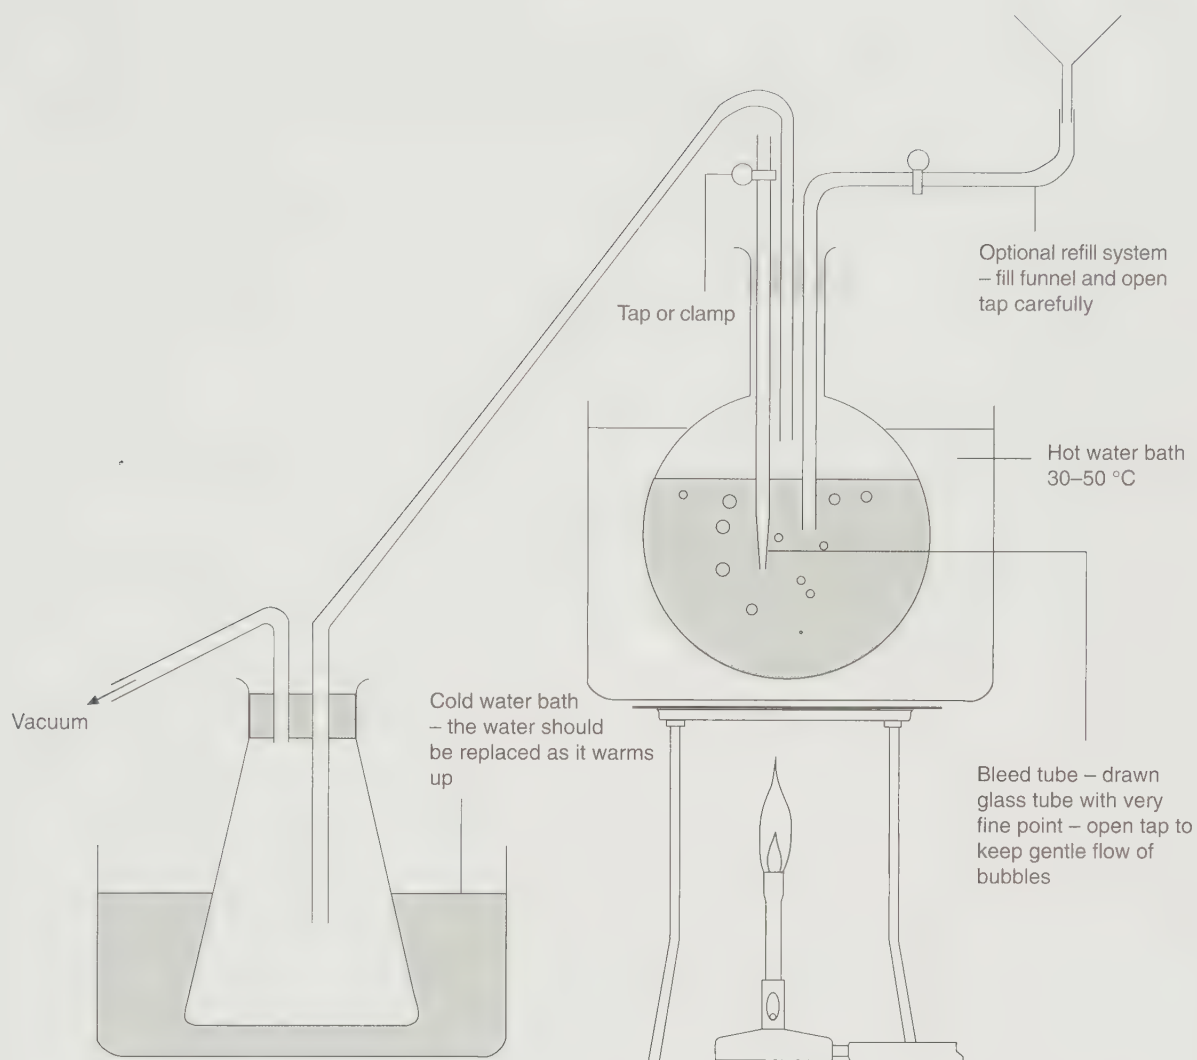

Figure 4 Apparatus for vacuum evaporation
- Apparatus for vacuum evaporation (see Figure 4)
- Set up the apparatus as in the diagram in Figure 4. As this takes a long time, pool the juice from several groups. It takes about 3 hours for 1 dm³ to evaporate sufficiently at 40 °C under high vacuum. So it should be left to run over the subsequent lessons or lunchtime. Use a safety screen.